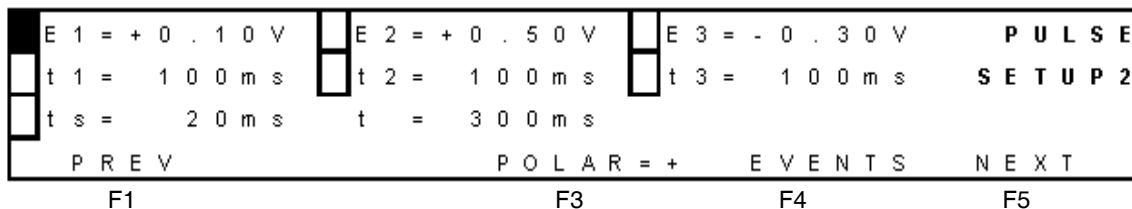

Figure 3-39 Pulse Setup2 Screen
2. Select **F5 NEXT**. The Pulse Setup2 screen appears (Figure 3-39).
4. Select **F5 NEXT**. The Pulse Setup2 screen appears (Figure 3-39).